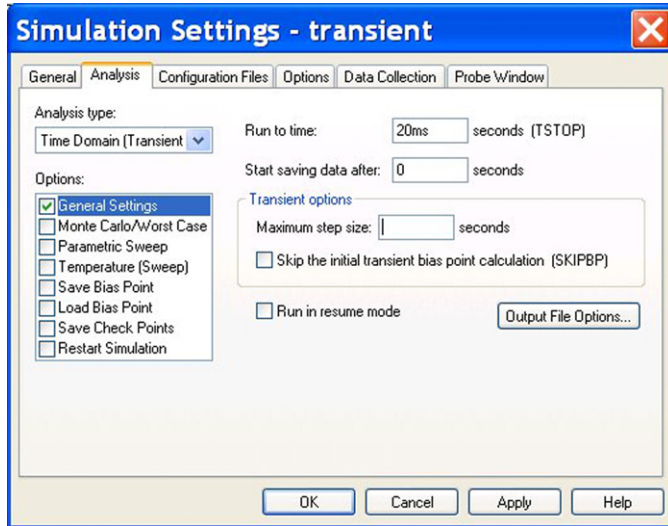

FIGURE 6.22
7. Create a PSpice simulation profile (PSpice > New Simulation Profile) and call it **transient**. In the **Analysis type:** pull-down menu, select **Time Domain (Transient)** and set the **Run to time:** to 20 ms (Figure 6.22). Click on **Apply** but do not exit the profile.